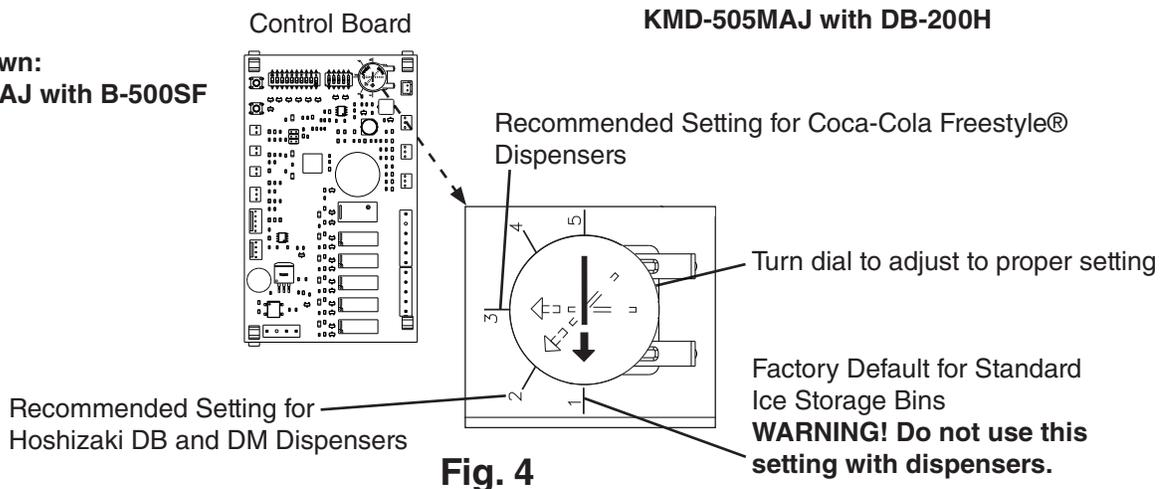

Fig. 4
- 2) Confirm ultrasonic bin control setting for proper application. See the table below for settings. See Fig. 4. for ice level reference.